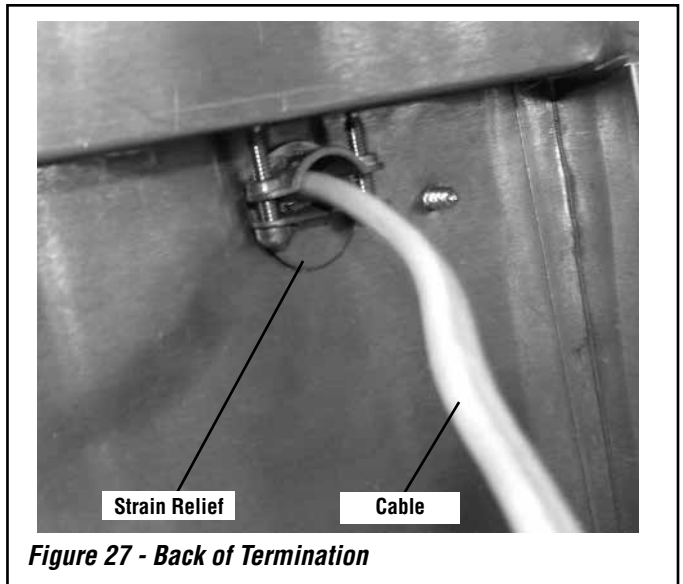

Figure 27 - Back of Termination
- Refer to **Figure 27 on Page 22** and install the electrical hardware on the ends of the cable. Male terminals on the Black and White wires, and ring terminals on the ground wire.
- Loosen the strain relief on the termination shown in **Figure 27**. Pull the pigtail in and shorten it to fit within the junction box cover.